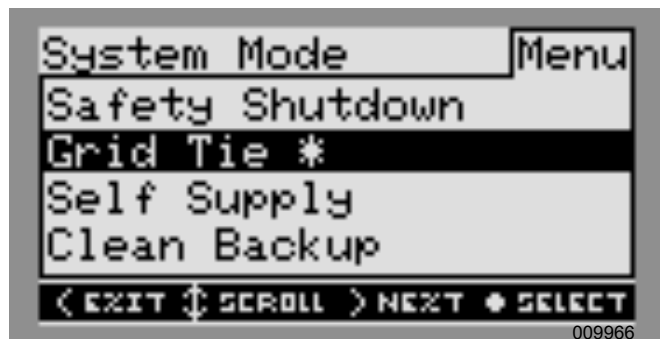

Figure 6-3. Selecting Operational Modes (2 of 4)
- See Figure 6-3. A list of operational modes will be displayed with the current mode marked with an asterisk.
NOTE: The list of modes may not include all those shown in Figure 6-3.